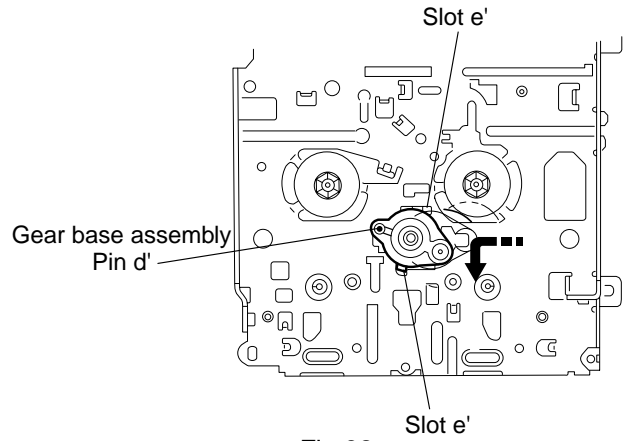

Fig.32
**■ Removing the gear base assembly / take up gear / reflector gear (See Fig.32 to 34)**